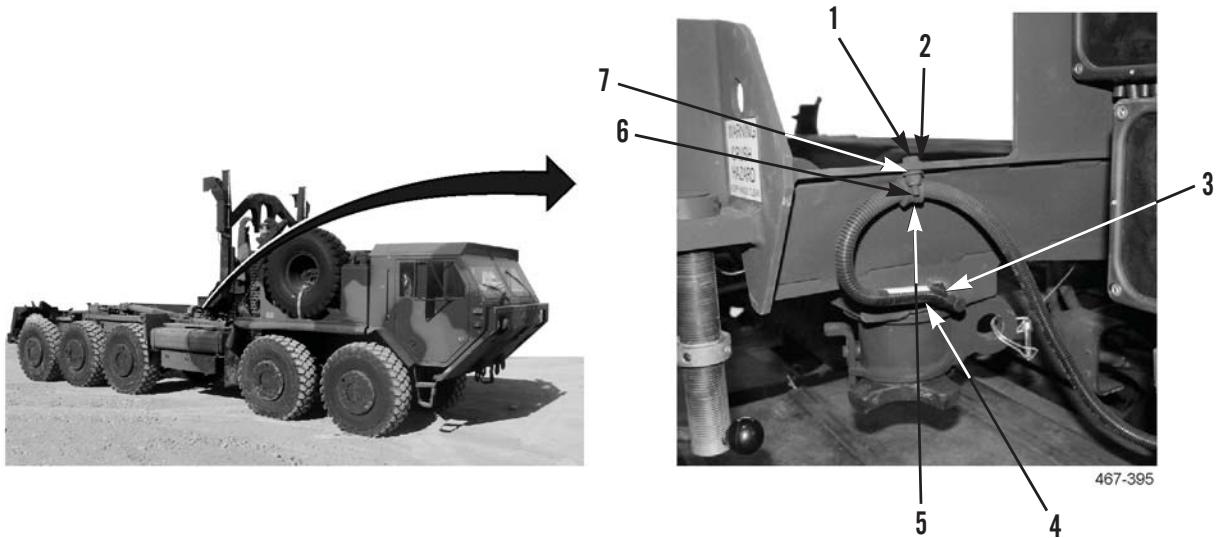

Figure 6. Transport Lock Sensor Harness Removal.
1. Remove transport lock sensor harness (Figure 6, Item 4) from transport lock sensor (Figure 6, Item 3).
2. Remove locknut (Figure 6, Item 6), washer (Figure 6, Item 7), clamp (Figure 6, Item 5), bolt (Figure 6, Item 1), and washer (Figure 6, Item 2) from transport lock sensor harness (Figure 6, Item 4). Discard locknut.